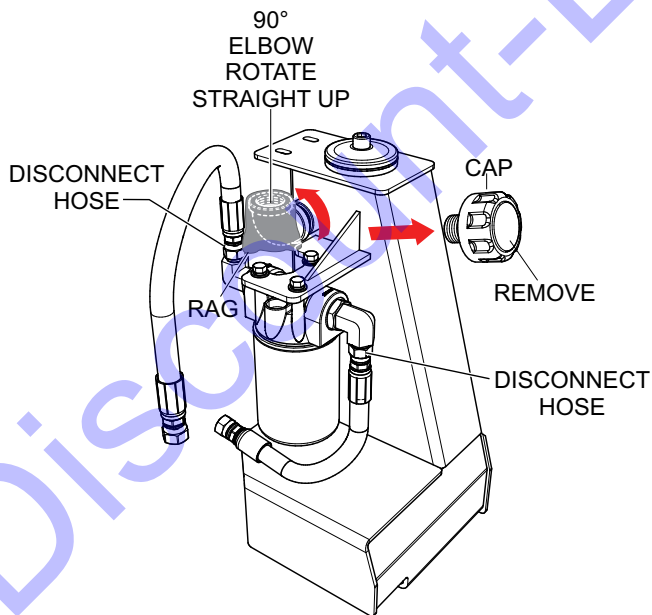

Figure 3. Disconnecting Hydraulic Hoses
5. Disconnect both hydraulic hoses (Figure 3) that are connected to the hydraulic oil filter head. Be sure to mark and tag each hose for reconnection later.
7. Remove the hydraulic oil cap and rotate the 90° elbow straight up as shown in Figure 3.
8. To prevent dirt and contaminants from entering the hydraulic oil tank, place a clean rag (Figure 3) over the opening of the 90° elbow.